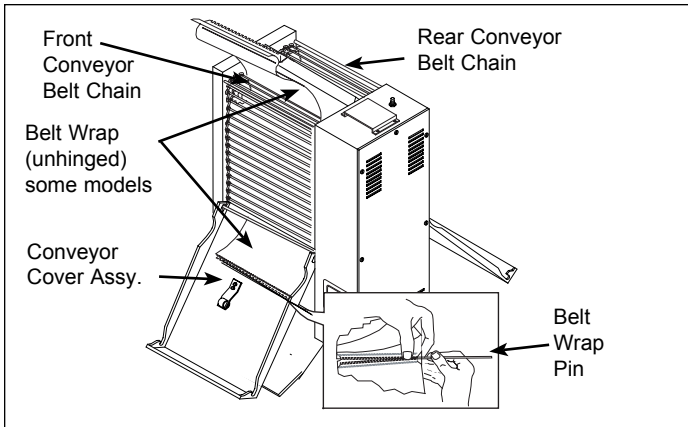

Figure 2. Removing Conveyor Belt Chains
6. Remove both the front and rear conveyor Belt Chains (Figure 2) by squeezing the ends of any 2 links together with pliers. This will detach one link from the other.
11. Reinstall the silicone Belt Wraps (if equipped) according to Figure 2.